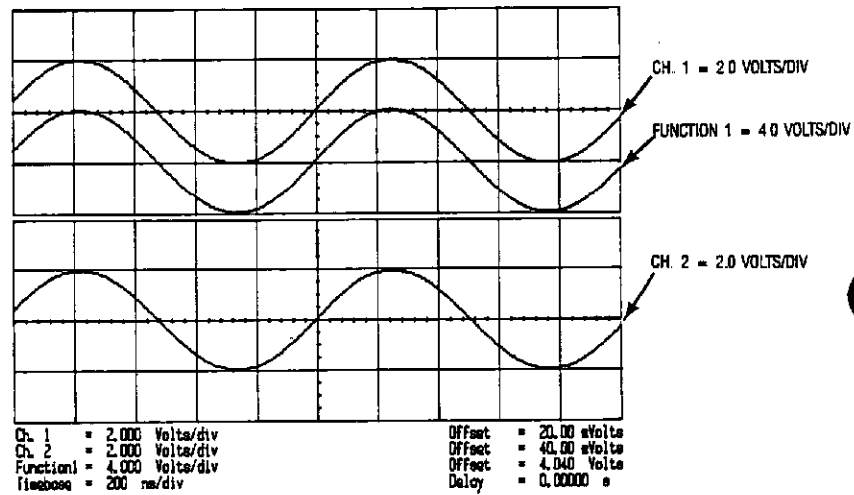

*Figure 11-3. Subtracting Two Operands*
- Turn Function Display on. Notice that the function display shows 0V (see figure 11-3).